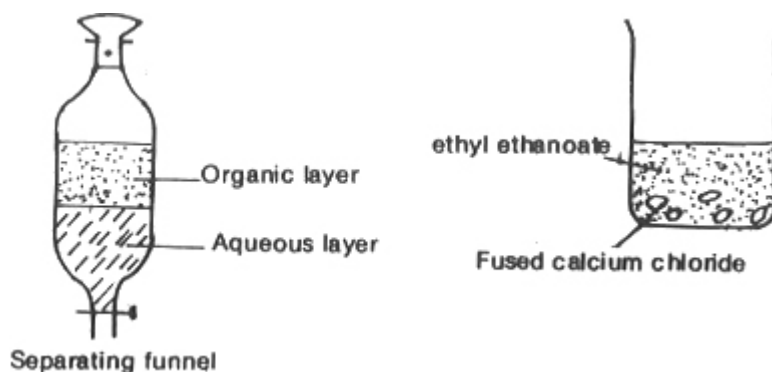

Figure 6.8: Preparation of ethyl ethanoate
Mix equal amounts of ethanol and concentrated tetraoxosulphate (VI) acid by adding the acid, in small amounts to the alkanol. Put this mixture into a round-bottomed flask. Next, mix equal amounts of ethanoic acid and concentrated tetraoxosulphate(VI) acid. Put this mixture into a dropping funnel. Set up the apparatus shown in Figure 6.8(a). Add pieces of anti-bumping granules to the flask. Heat the flask in an oil bath.